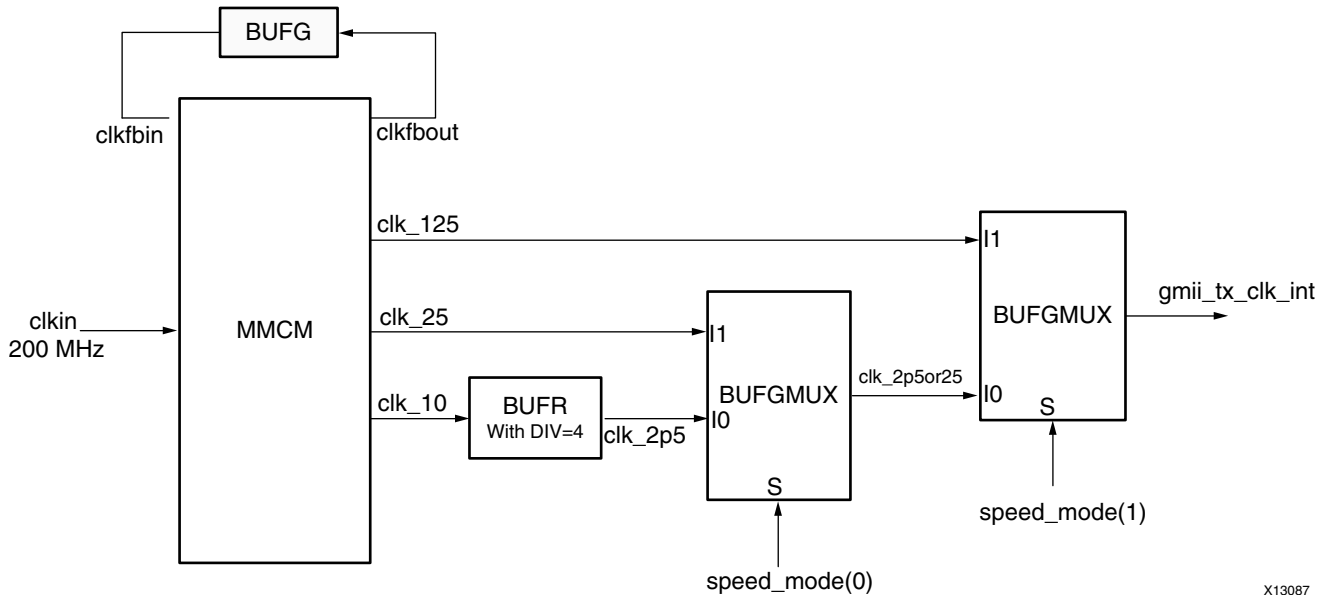

Figure 2: Clock Generator
GMII to RGMII IP has a built-in clock generator for providing 2.5 MHz, 25 MHz, and 125 MHz frequency clocks for 10 Mb/s, 100 Mb/s, and 1 Gb/s speed of operations respectively. The clock generator uses a MMCM and two BUFGMUXs to switch between three different clock frequencies for the three different speed modes of the Ethernet MAC. The speed_mode(0) and speed_mode(1) signals are used as selection pins of BUFGMUX0 and BUFGMUX1 respectively as shown in Figure 2.